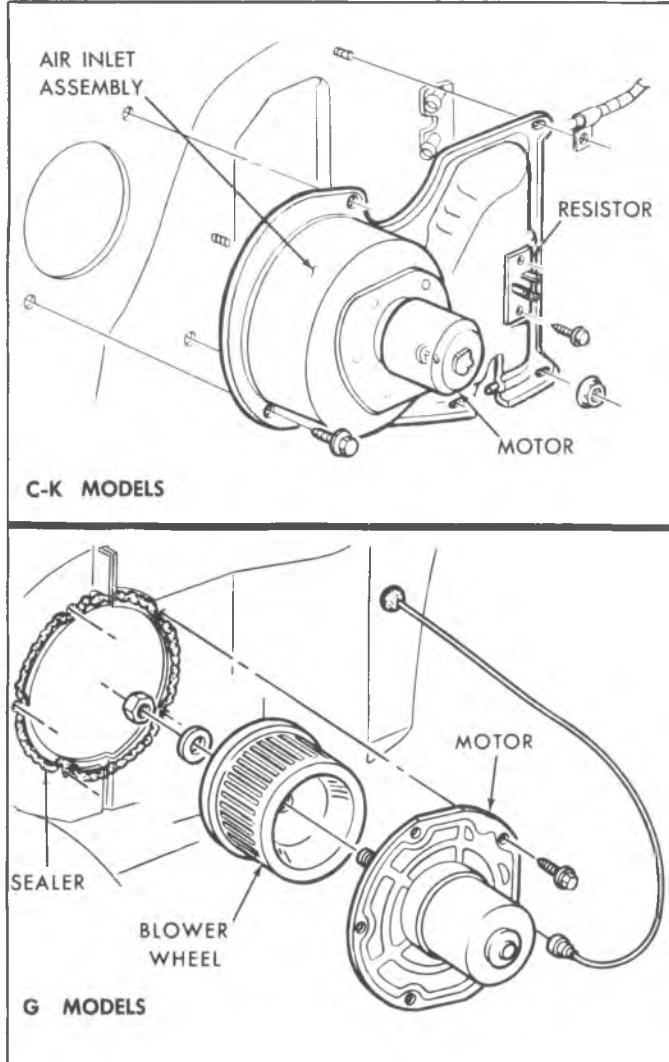

Fig. 4--Blower Motor Assembly
**COMPONENT PART REPLACEMENT****BLOWER MOTOR****Removal (Fig. 4)**